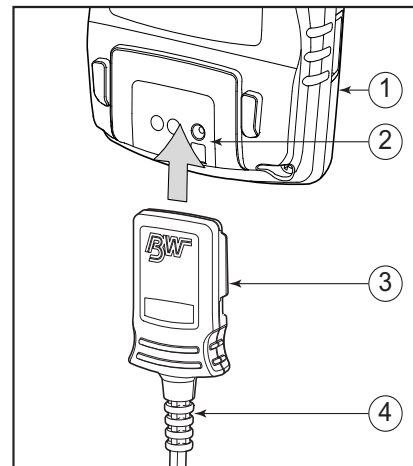

Figure 9. Connecting the Detector and IR Link
3. Insert the IR Link into the IR interface on the back of the detector. Refer to Figure 9.